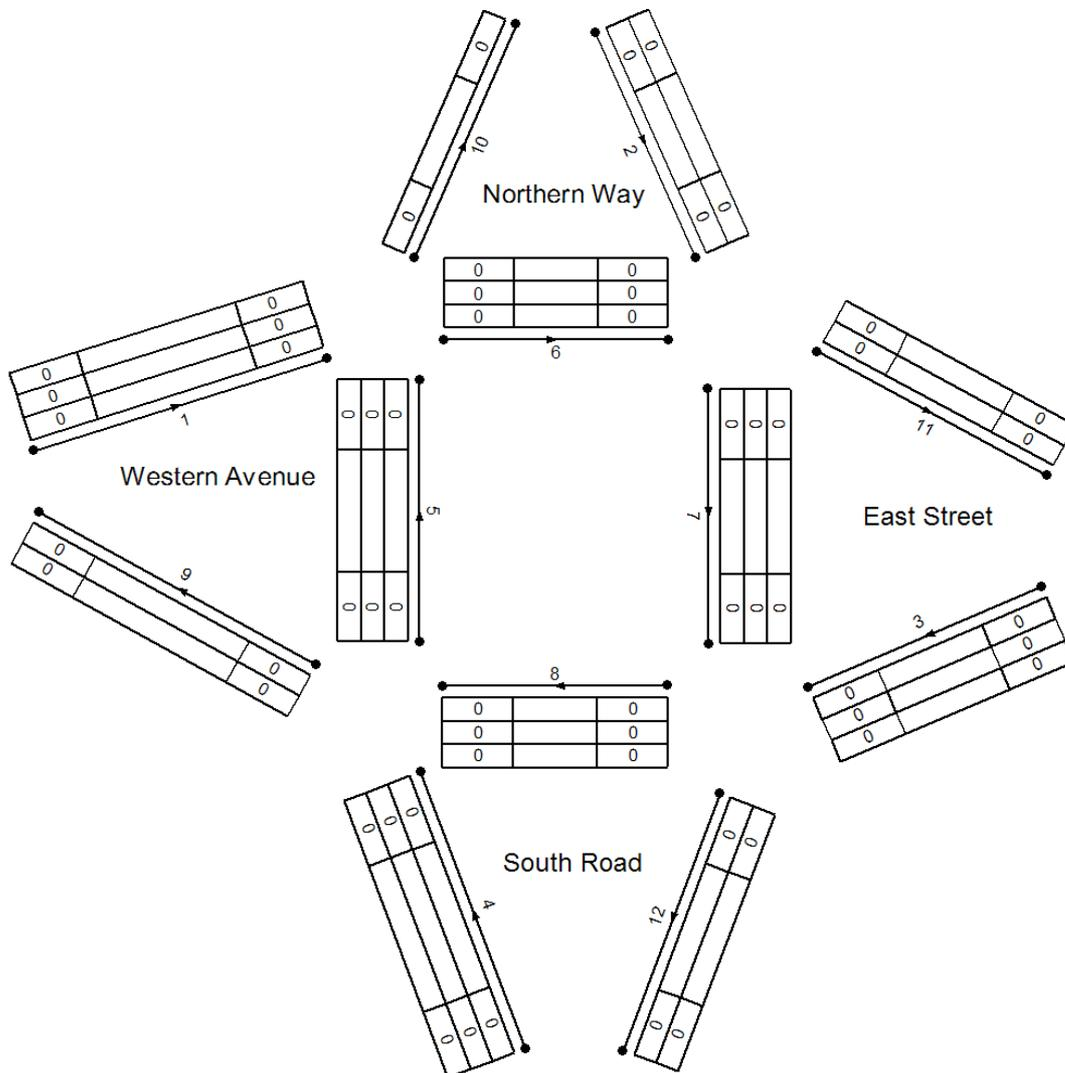

Figure 4.2 : The Network Diagram after Step One
- Position and resize the Network Diagram to have a sensibly sized area for the left hand (currently blank) pane. It is in this pane the Network Diagram will be built to look like Figure 4.2 by the end of this step.
- Referring to Figure 4.2, drag Arm 1 into position so it represents the Western Avenue entry to the roundabout.
- Now enter all the other Arms in the same way locating them approximately as shown in Figure 4.2. Make sure that Entry Arms point towards the roundabout, Exit Arms away from the roundabout and Circulatory Arms point in the direction of circulation (clockwise in the UK). As you add Arms, you may find you need to zoom and pan around the Network View. This is described in the next section. Any Arms that are created incorrectly can be deleted by selecting the Arm and choosing 'Delete Arm' from the 'Network...Arms' menu. This will also delete any Lanes belonging to the Arm being deleted.
- Choose 'Labels...' from the Network menu. From the pop-out menu choose 'Add Label'. The 'Edit Label' dialog box will be displayed. Enter 'Northern Way' for the Label text and 6.0 mm for the text height. Click 'OK' and position the Label as shown in Figure 4.2. Repeat for the other Road names.